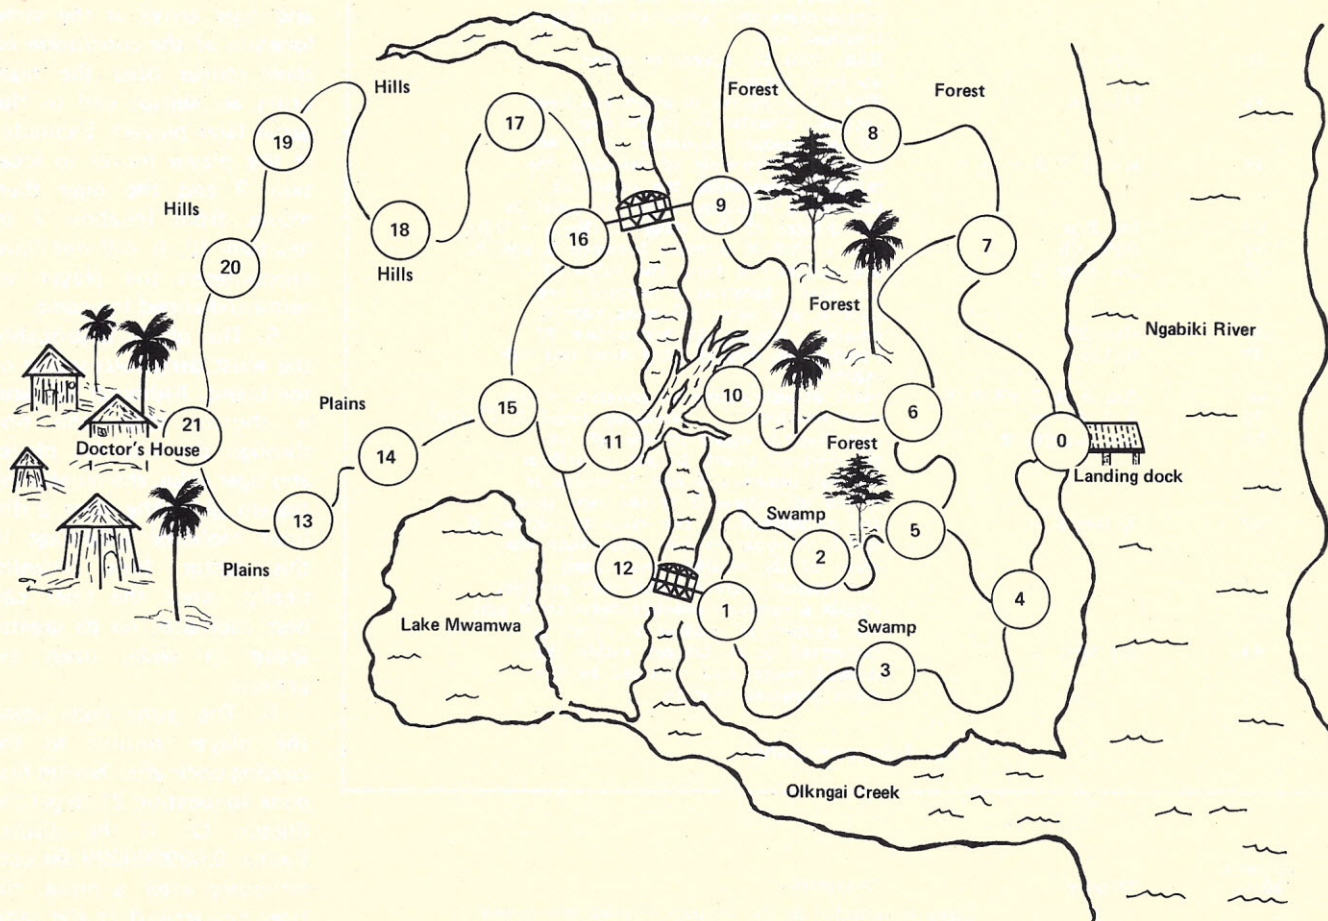

Fig. 2. Game board.
1. A player may take any route to reach the village and return (see the game board configuration, Fig. 2), provided he moves one numbered location at a time along a solid path. A player need not move to locations in numerical sequence and may go forward or backward.